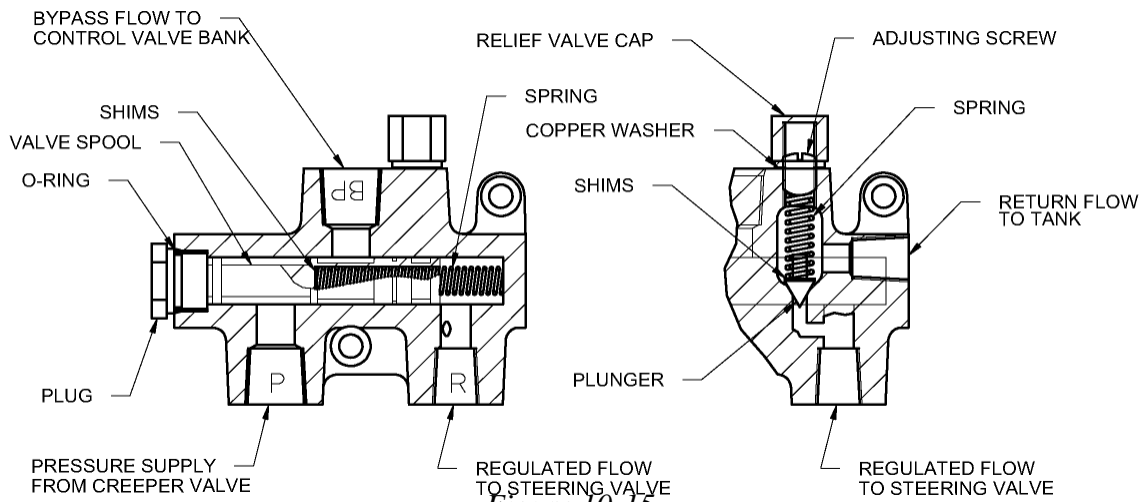

Figure 10-15
The flow divider or priority valve is located in the pressure line between the creeper-drive valve and the control-valve bank. The purpose of the flow divider is to maintain a constant flow of 3 gpm to the steering circuit regardless of pressure or flow requirements of the downstream control circuits. All of the flow exiting the creeper-drive valve enters the flow divider. The flow divider is located just above the left-hand floor plate extension, forward of the steering column. Internal components of the flow divider are not serviced by Arrow. However, if it should become necessary to disassemble the flow divider, refer to Figure 10-15 or Figure 10-15A and the following instructions.
6. Reassemble the flow divider using the reverse of the disassembly procedure. Refer to Figure 10-15 or Figure 10-15A and note the orientation of the valve spool, spring, and shim. It is possible to insert these items backward.